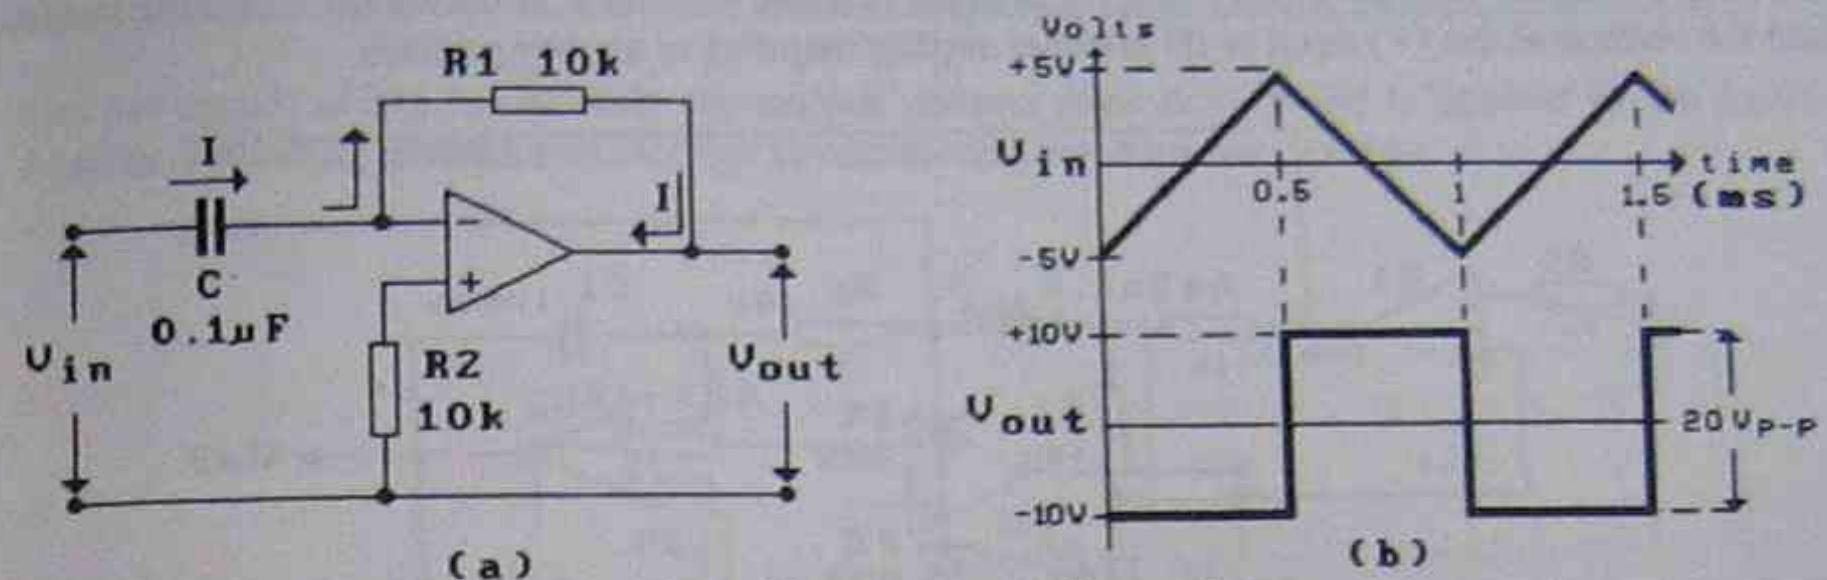

Fig.4: The op amp differentiator
The circuit of Fig.4(a) shows the basic op amp differentiator. Because a differentiator is the opposite to an integrator, analysis of the circuit will show that if a triangular wave is applied to the input of the differentiator, a square wave will result at the output. For example if the output waveform of Fig.2 is applied to the input of Fig.4, a $20V_{p-p}$ square wave should result at the output.
- Thus, as shown in Fig.4(b), the output waveform is a $20V_{p-p}$ square wave as predicted.